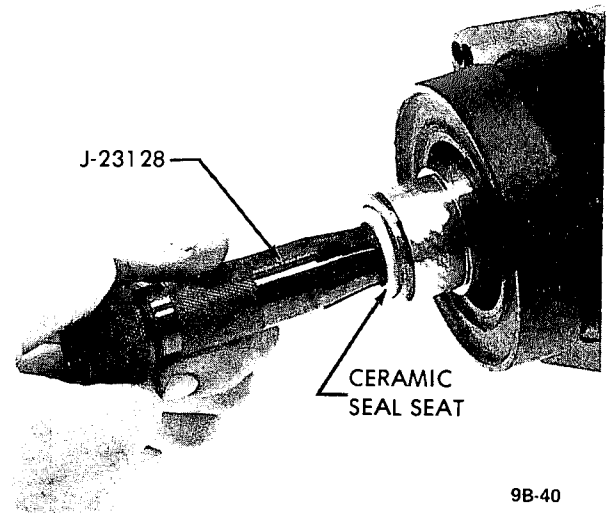

Figure 9B-63 Removing or Installing Ceramic Shaft Seal Seat - 6 Cylinder Compressor
8. Remove the seal assembly, using Tool J-9392. Press tool downward on seal while twisting it clockwise to engage the tabs of the seal assembly. Gently but firmly, pull tool straight out (see Figure 9B-64).